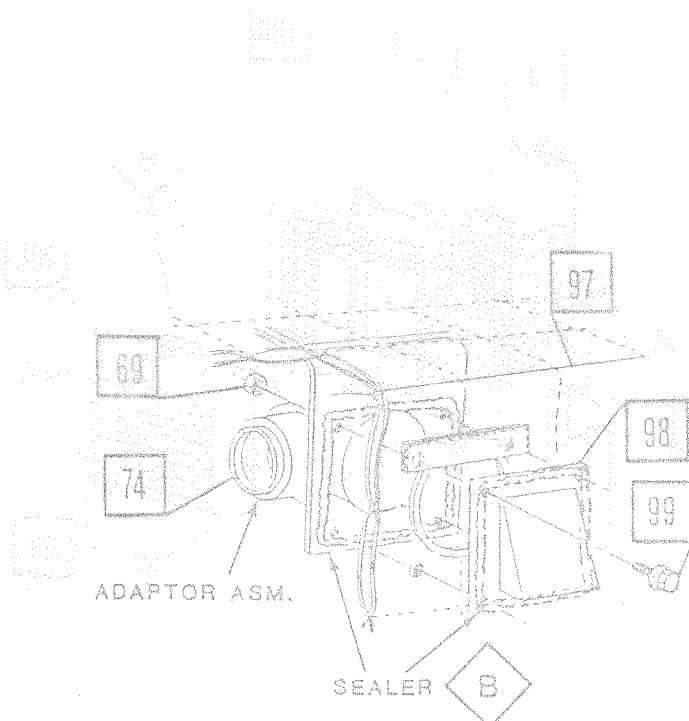

Figure 26.
86. Apply 3/16 inch bead of sealer and install bolts, nuts, adaptor assembly and front deflector assembly (Figure 26.). Tighten bolts to 50-60 lb.-in. (6.0-8.0 Nm).
93. Attach vent assembly with bolts. Tighten bolts to 25-31 lb.-in. (2.8-3.5 Nm) (Figure 26.).